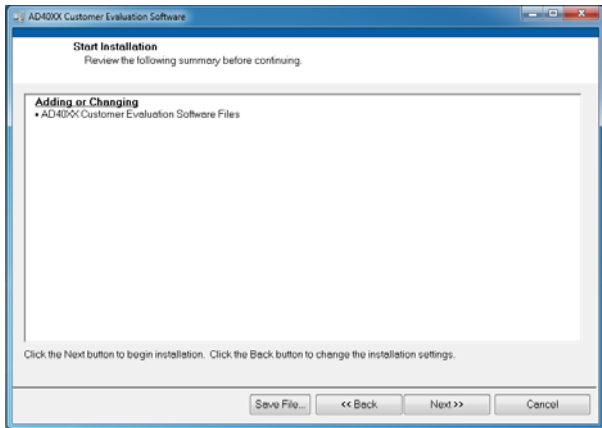

Figure 7. Start Installation Window
- The window shown in Figure 7 provides a summary of the software installation. Click **Next** to install the software listed in the window.